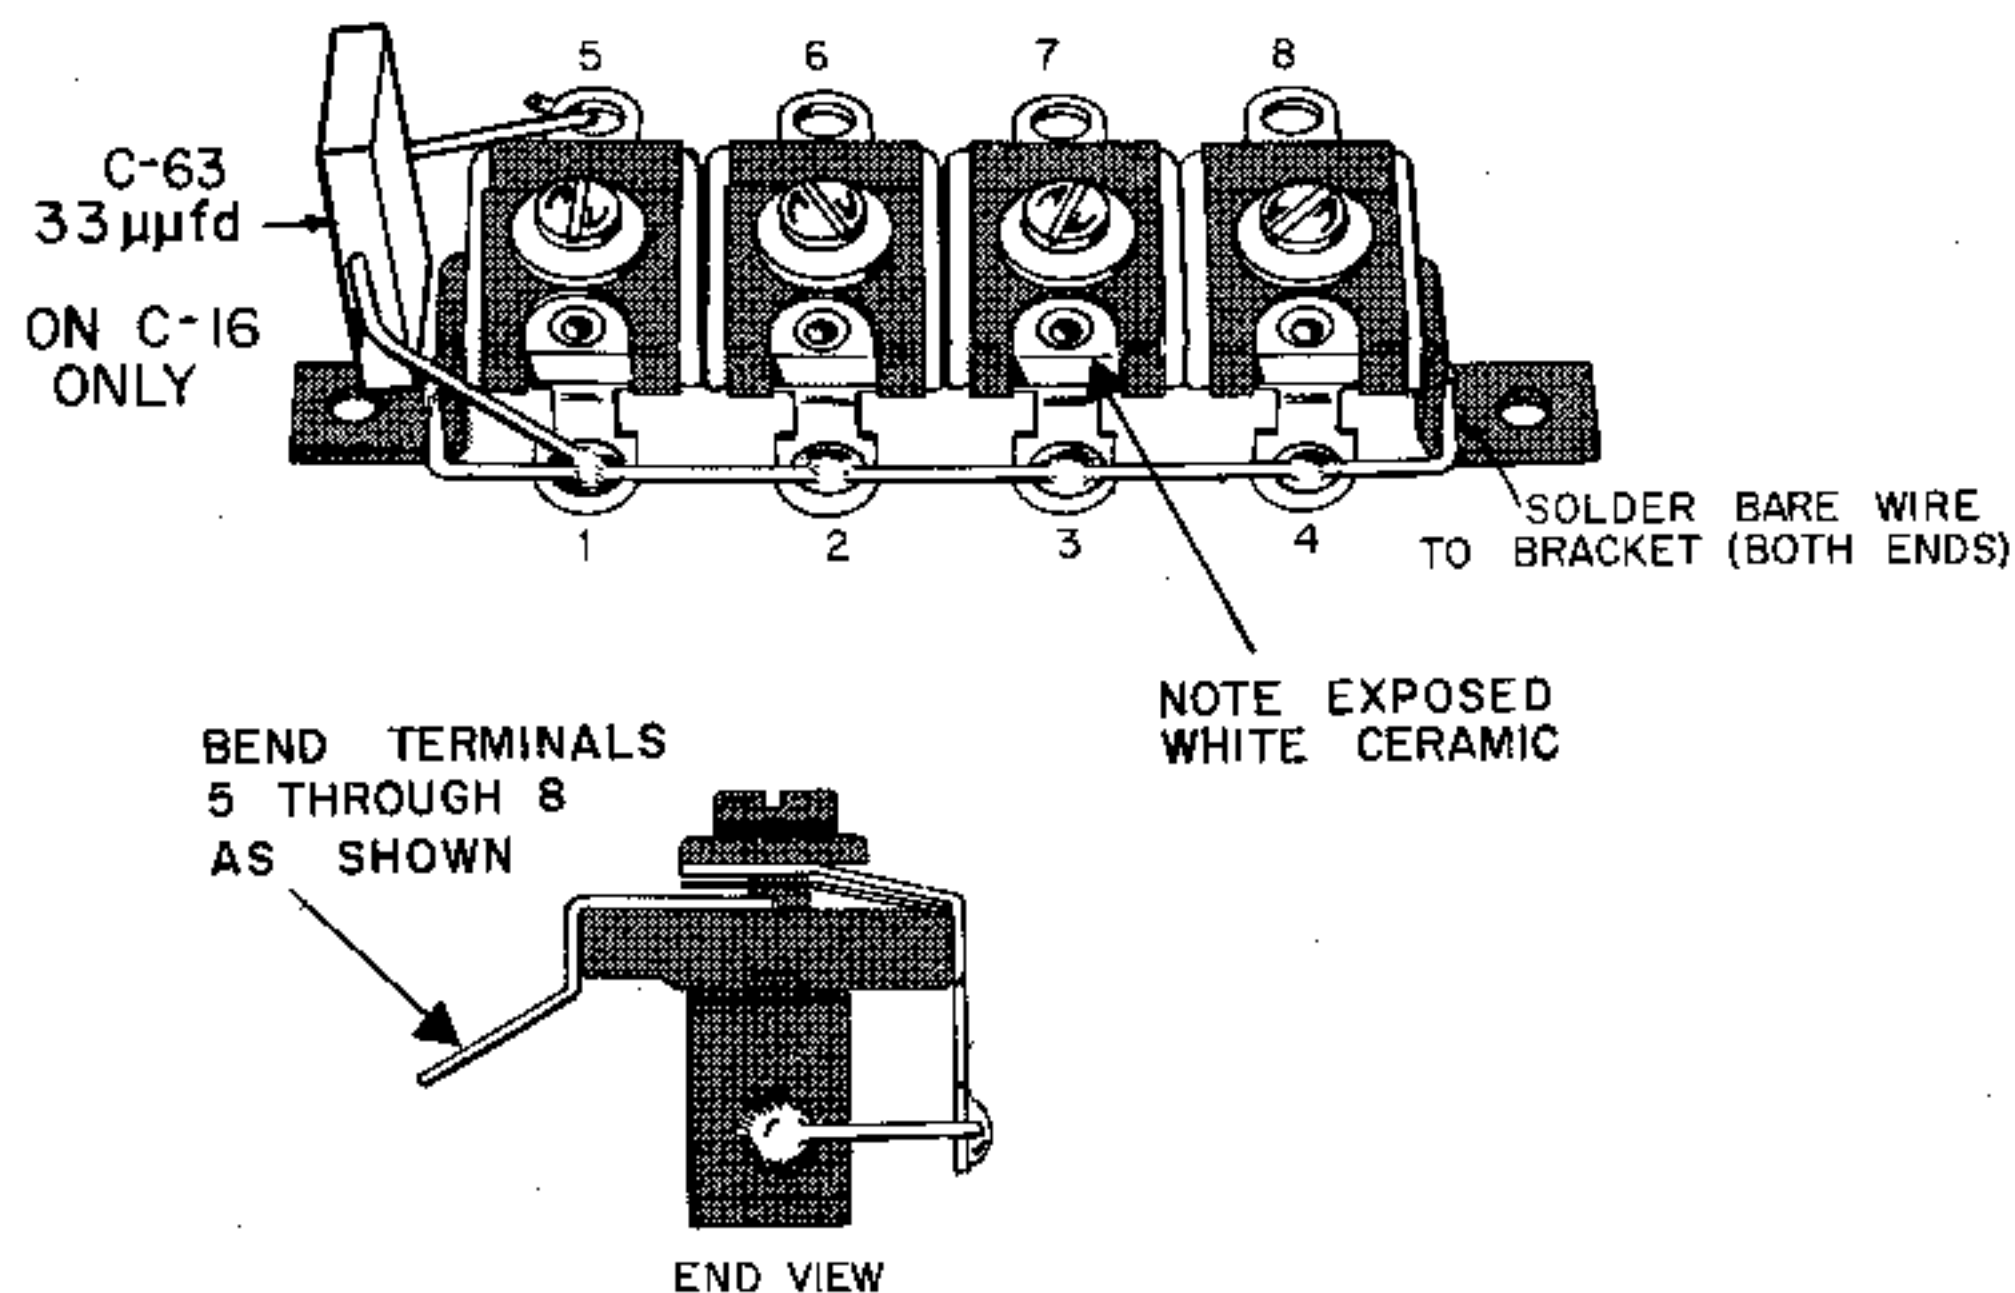

FIGURE 14. PREPARING THE TRIMMER STRIPS
SEE FIGURE 14.
Two, identical trimmer strips are supplied. Each consists of four 3-30 $\mu\mu\text{fd}$ trimmers mounted on a bracket. Notice that terminals 1, 2, 3 and 4 on one side of each trimmer are just below the exposed white ceramic, as shown in Figure 14. These terminals must be properly identified and wired or the receiver will not work.
- Position one of the trimmers exactly as shown in Figure 14. This trimmer will be used as C-16.
- Position the other trimmer strip, C-12, exactly as shown in Figure 14.